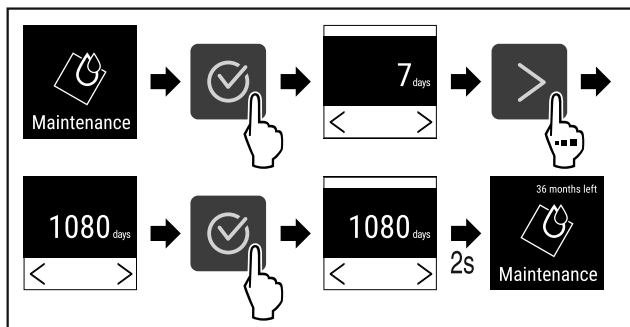

Fig. 74
- ▶ Complete steps (see Fig. 74).